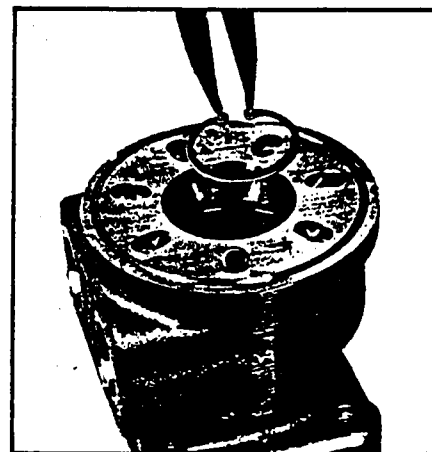

Figure 31
3. If the housing (15) has been completely disassembled, place the housing, mounting flange end down, on a clean work surface. Install retaining ring (18) into the housing retaining ring groove. Be sure the rounded edge of retaining ring is facing in toward the larger housing cavity. Use appropriate retaining ring pliers. SEE FIGURE 31.